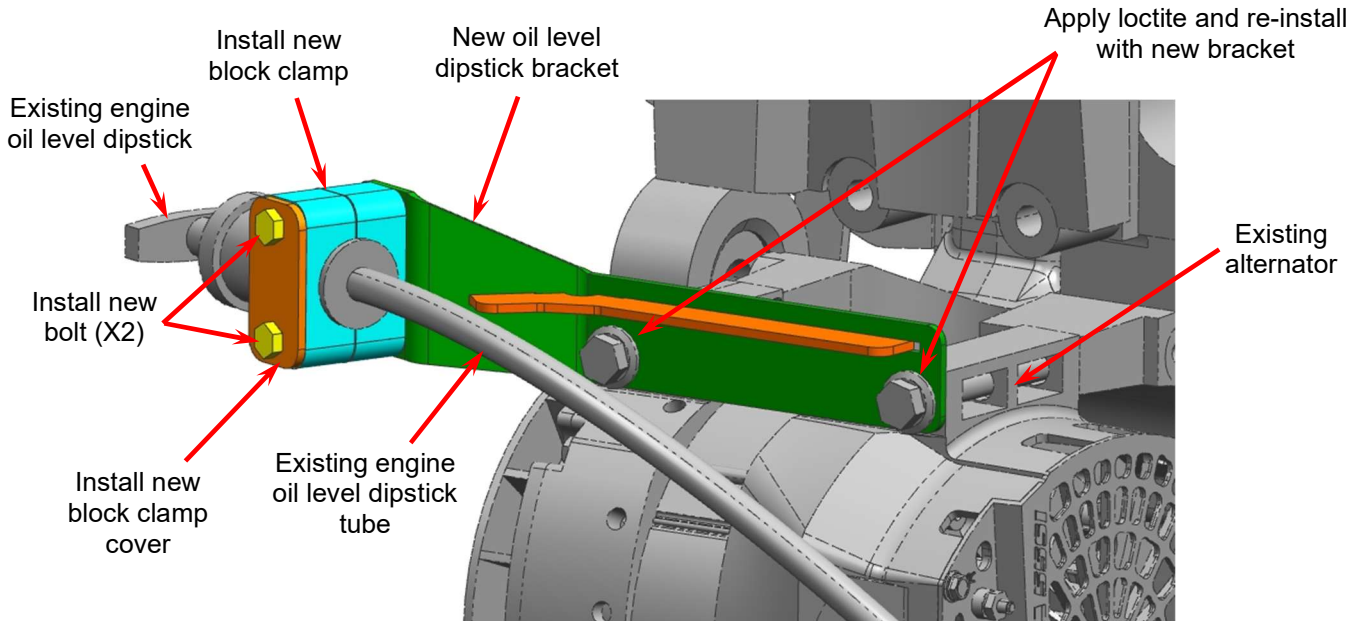

Figure 3: New Oil Tube Dipstick Support Bracket Installation
6. Apply loctite to the bolt threads removed in Step 5 and install new bracket p/n 1095415 in the same location and orientation as shown in Figure 3, torque bolts to 33-35 ft*lbs.
7. Secure the oil dipstick tube tied back in Step 4 to the newly installed bracket as shown in Figure 3 using clamp p/n 502245, cover plate p/n 068497 and bolt p/n 20B04036 (x2), apply loctite p/n 081034 to the bolt threads prior to installation.